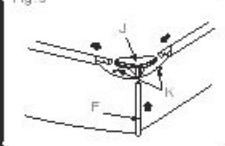

Fig. 6
10. On the sides of the rectangle, insert the T Support (E), Vertical Pool Legs (F) or the Y-Vertical Pool Legs (G/H) into the vertical holes of the Connectors (I). (See Fig. 6, See Fig. 8)
11. Connect the Side Support Legs (H) to the Y-Vertical Pool Legs (G). Ensure the spring-loaded pins lock into the pre-drilled holes. (See Fig. 6)
12. On each corresponding Pool Leg located on the sides of the rectangle, put the Pool Legs (E, F or G) through the loops of the Leg Bands (L). This will keep both corresponding pool legs locked in position. (See Fig. 6, See Fig. 8)